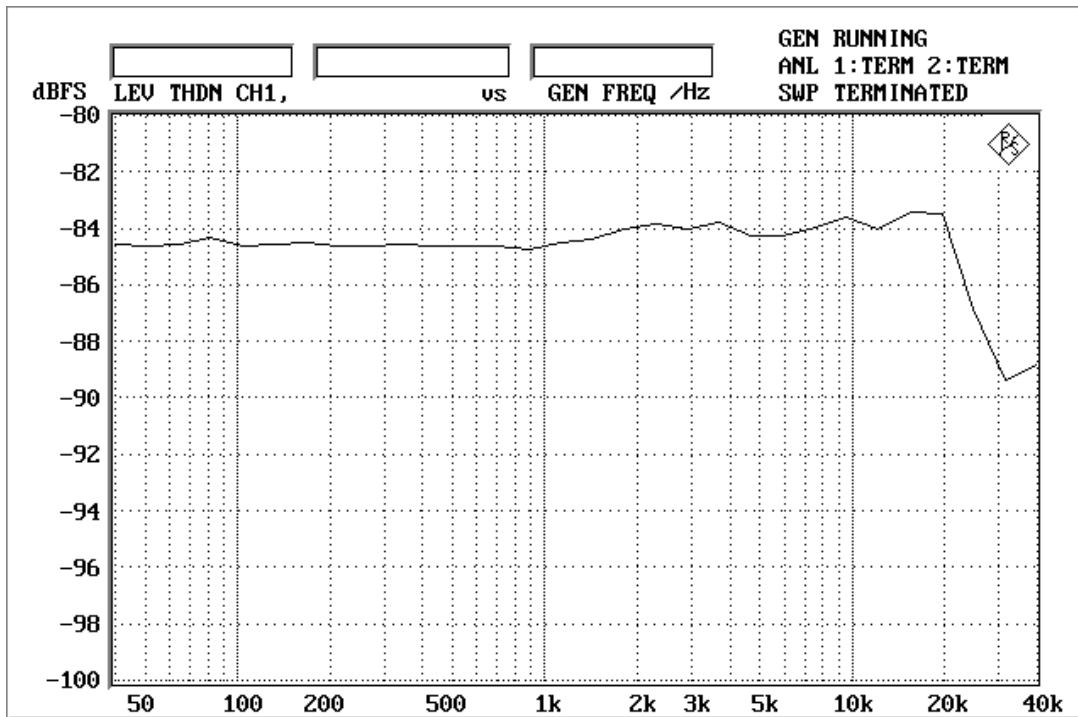

Figure 11. THD+N vs fin (fs=96kHz; Input Level=-1dBFS)
- Figure 11. THD+N vs fin (-1dBFS input)